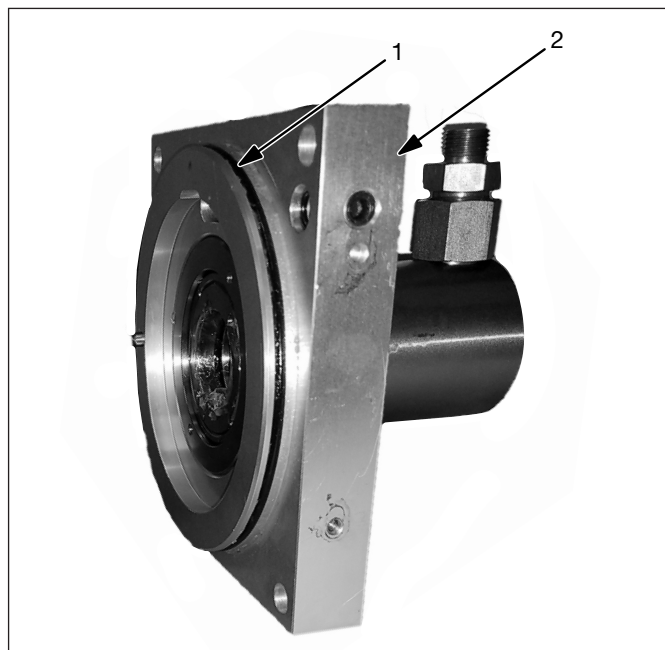

Figure 6, End Cap Seal Removal
1. Using a clean, lint-free rag and suitable cleaning agent, remove old grease and seal (Figure 6, Item 1) from end cap (Figure 6, Item 2).